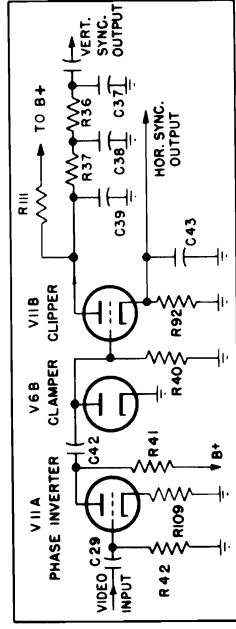

Fig. 5. Sync Separator Circuit
4. SYNC SEPARATION (SEE FIGURE 5)—Amplification and separation of the sync pulse from the composite video signal is accomplished by tube sections, V11A, V6B, and V11B.